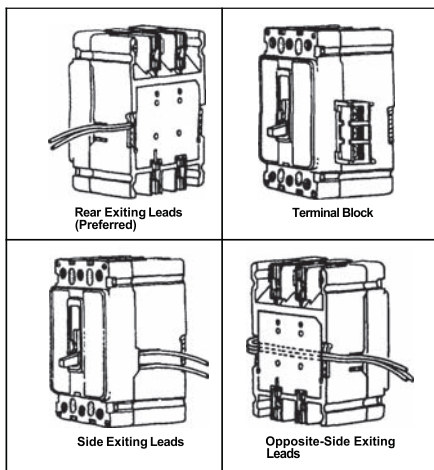

Fig 2-3. Accessory Wiring Options.
- 2-4. Route wiring to meet installation requirements (see Fig. 2-3).